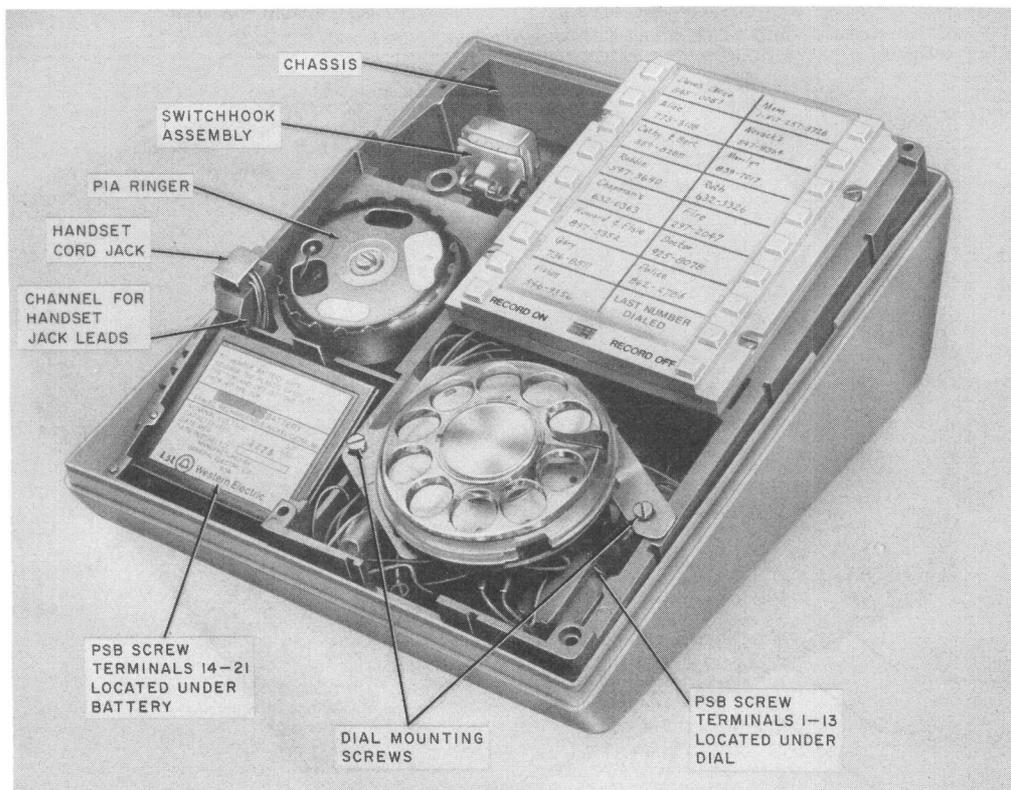

Fig. 5—960A01M (MD) Telephone Set With Handset, Faceplate, Shield, and Upper Housing Removed
- **Battery** snaps into a cavity from the top side in the left front corner of the chassis (Fig. 5).
- **Ringer** is fastened by two screws to bosses on the bottom of the chassis (Fig. 9A) and rests in a cavity just to the rear of the battery cavity (Fig. 5).
- **Handset Jack** slides into a cavity on the top left side wall of the chassis adjacent to the ringer and battery (Fig. 5).
- **Switchhook Assembly** is soldered to power supply printed wiring board and located at left-rear corner of power supply board (PSB) (Fig. 5).
- **Power Supply Printed Wiring Board Screw Terminal Areas** (Fig. 5 and 6).
- **Chassis** is main structural member to which other component assemblies are fastened, including the upper and lower housings (Fig. 5 and 9).
**6.04** The KS-20390L5 battery has an expected life of about 4 years. It can be replaced without loss of memory provided that commercial ac power to the set is continuously maintained. To replace the battery, proceed as follows (Fig. 5 and 6):